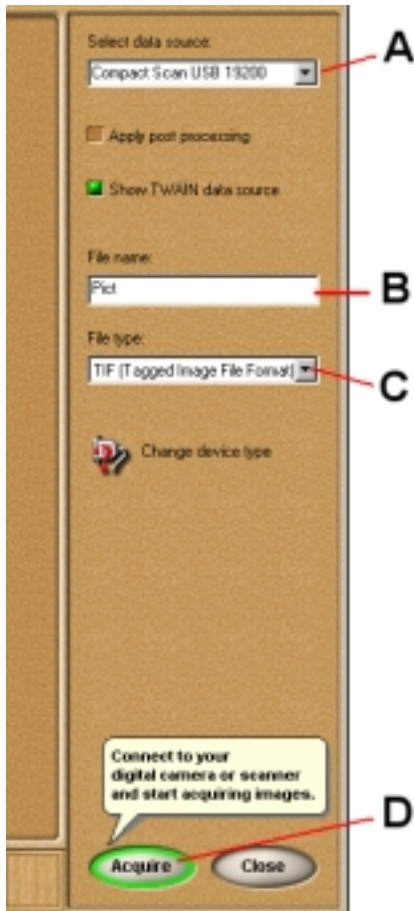

Figure 21: activating the scanner
4. A number of scanner options will appear in the right-hand Photo Express window. Select the 'Trust Easy Webscan 19200' from 'Select data source' (A). See figure 21.
5. Provide a name for the image to be scanned in 'File name' (B). See figure 21.
6. Provide a file format for the picture to be scanned in 'File type' (C). See figure 21.
7. Click on the 'Acquire' (D) button to retrieve the TWAIN interface screen of the scanner. See figure 21.